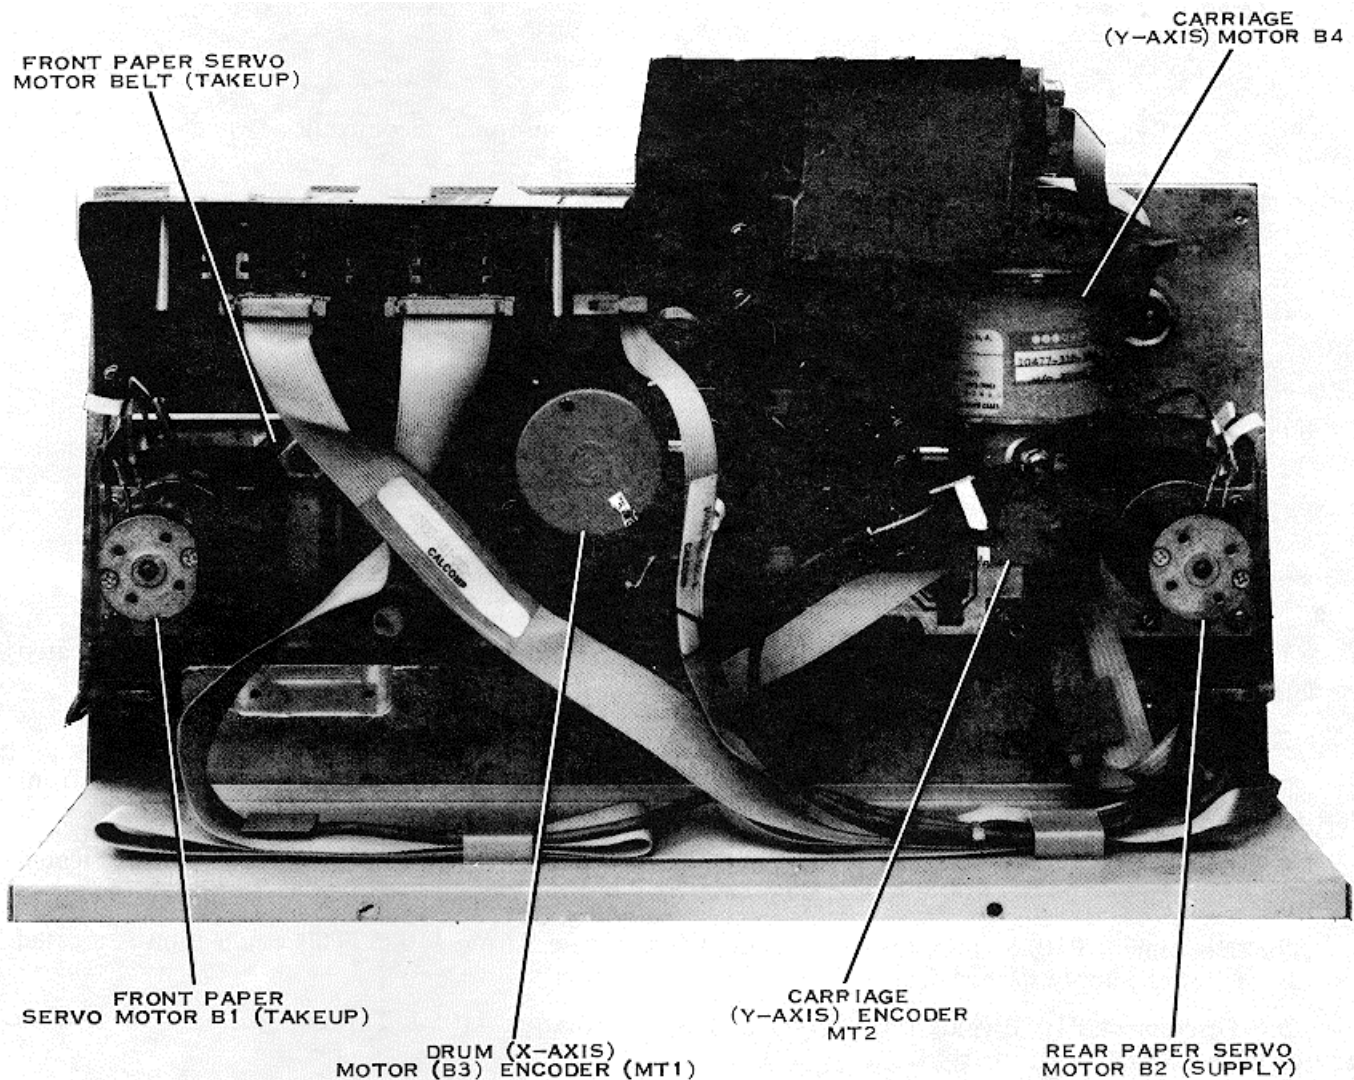

Figure 5-9. Motor and Encoder Locations
a. Removal is as follows: (refer to figure 5-9 for location of motors and encoders.)